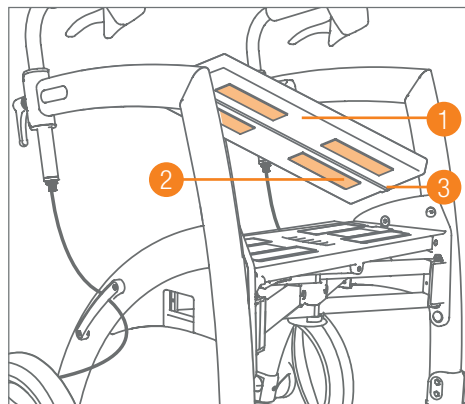

Figure 55: Removing the seat cushion from the rollator.
- a. Pull the Velcro on the cover of the cushion off from the seat (**Figure 55**).